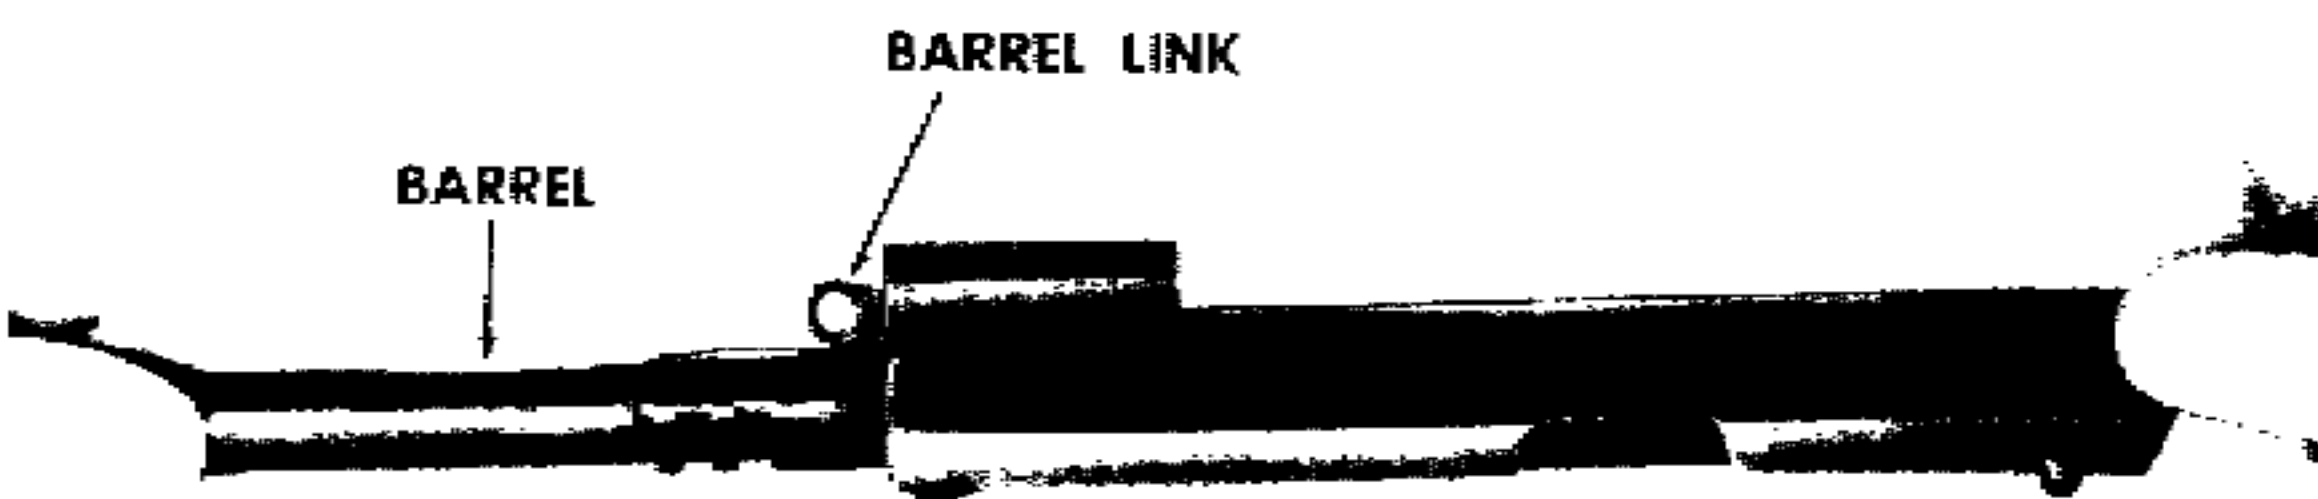

Figure 12. Push the barrel link forward and remove the barrel from the front end of the slide. This completes general disassembly.
a. *Barrel.* Push the barrel link forward on the barrel and replace the barrel, chamber end first, in the slide (fig 12.).